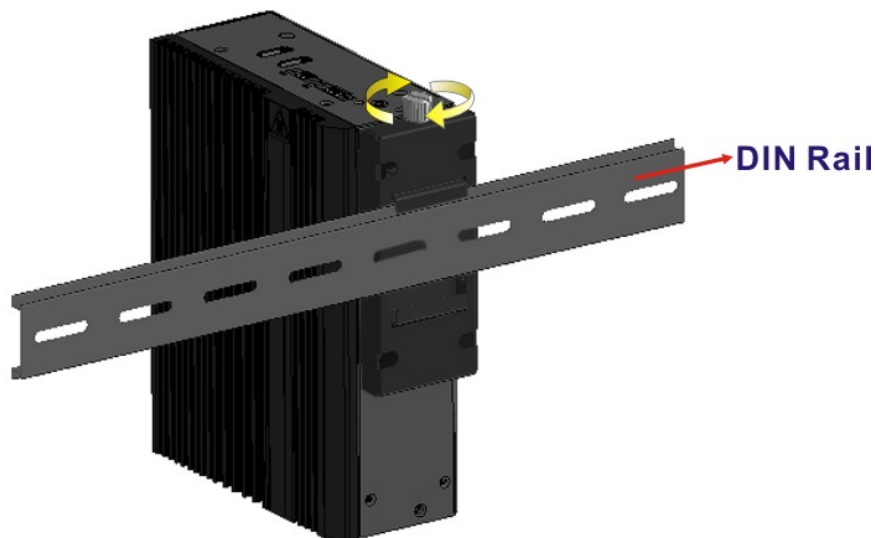

Figure 3-25: Mounting and Secure the System to the DIN Rail
Step 3: Place the DIN rail flush against the back of the mounting bracket making sure the edges of the rail are between the upper and lower clamps (**Figure 3-25**).
Step 4: Secure the DIN rail to the mounting bracket by turning the top screw clockwise. This draws the lower clamp up and secures the system to the DIN rail (**Figure 3-25**).